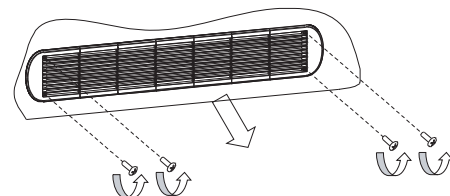

Fig.5-10
- 2) Loosen the hanger of the put down side refers to Fig.5-10